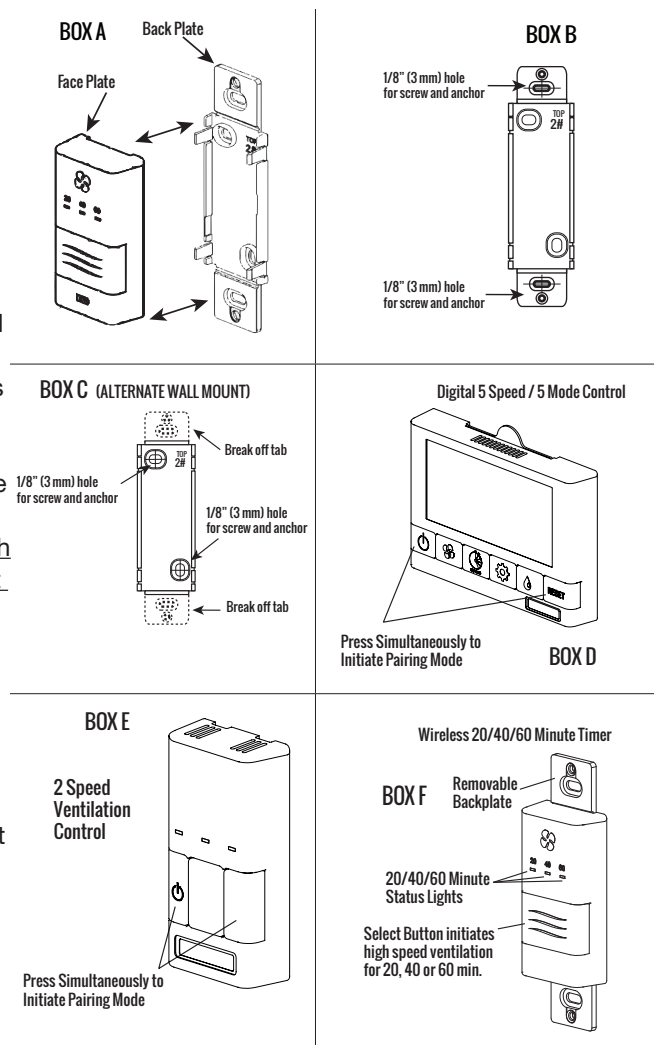

Figure 30. Installation of Timer
2. Pairing PrecisionSYNC Control (435244): Press the left and right buttons simultaneously on the control  and RESET buttons. The screen will go blank and the wireless symbol  appear flashing on the bottom right of the display. This indicates that the control is now in pairing mode (Figure 30, Box D).
3. Pairing 20/40/60 Minute Wireless Timer (435248) with Two-Speed Switch with Humidity Sensor (435245) and Two-Speed Switch with Intermittent Mode (435246): Press the left and right buttons simultaneously on the control  and  buttons). The bottom row of three LEDs will begin flashing. This indicates that the main control is now in pairing mode (Figure 30, Box E).
1. Separate the face plate from the back plate by firmly pulling apart (Figure 30, Box A).
2. For mounting the control without a decorative plate, break off top and bottom tabs and refer to Figure 30, Box C for mounting.
3. Place the back plate of the control in the desired location on the wall and pencil mark the top and bottom screw holes (Figure 30, Boxes B or C). Drill two 1/8" (3 mm) holes.
5. Attach the face plate to the back plate (Figure 30, Box F).